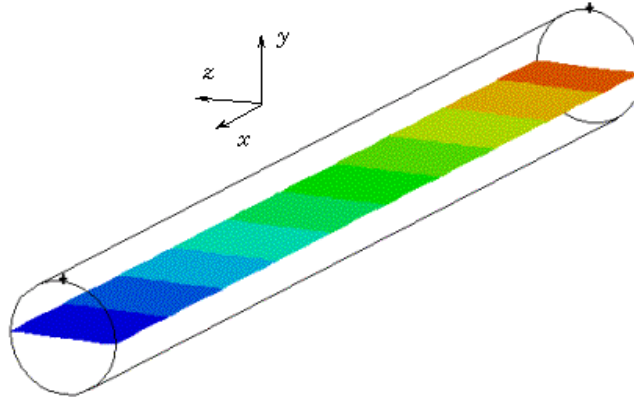
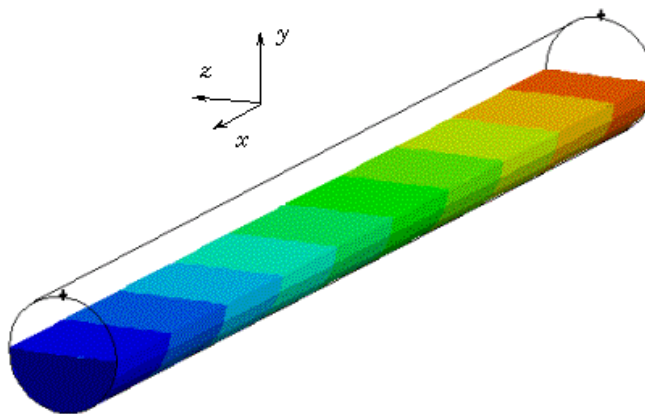
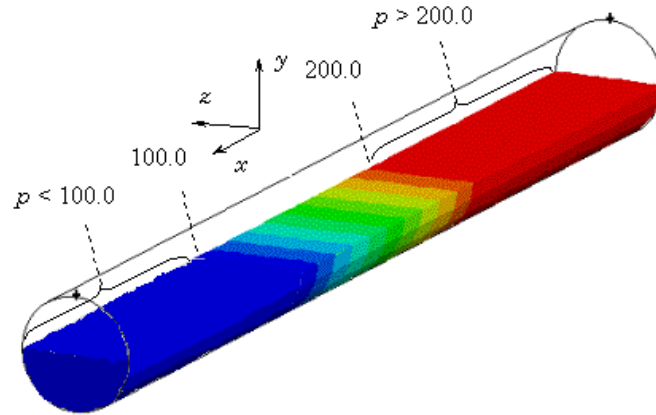
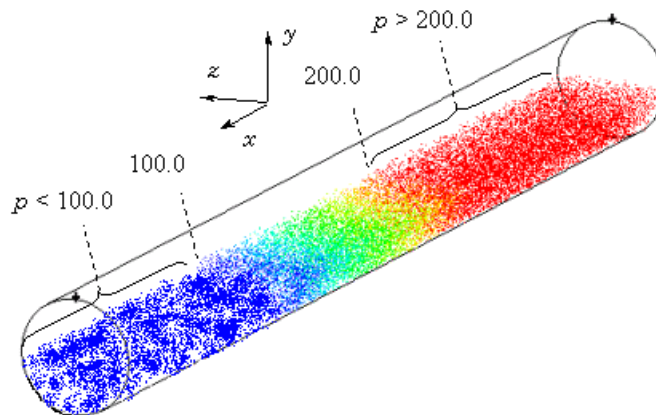

Figure 9.8.4: Band Contour Plot, Halfspace (0)
Figure 9.8.5: Band Contour Plot, Halfspace (-) and (0)
Figure 9.8.13: Band Contour Plot Between Max Value=200 and Min Value=100
Figure 9.8.14: Cloud Contours of Pressure, Minimum=100, Maximum=200
Figure 9.8.4 shows a **Bands** contours of pressure defined on a plane. Each band in this contour represents an isobaric value at one end of the band. By default, the region is divided into 10 intervals.
Figure 9.8.5 shows a plane object with the contour specifications identical to those shown in Figure 9.8.4, but with **Halfspace (-)** and **(0)** options.
If you specify an **Isosurface** contour for the cutting plane only, by selecting only the **Halfspace (0)** option on the **Create Plane Object** panel, the plane-object display is identical to that for a **Bands** contour applied to the cutting plane (Figure 9.8.4).
For example, if you create a **Bands** contour as shown in Figure 9.8.5, and specify **Minimum** and **Maximum** values of 100 and 200 respectively (maintaining the default **Intervals** value), FlowLab displays a pressure contour as shown in Figure 9.8.13.
In this figure, the region in which pressure values are between 100 and 200 is subdivided into 10 intervals. The intervals are assigned colors shown in Figure 9.8.5. The regions in which pressure is less than 100 (**Minimum**) or greater than 200 (**Maximum**) are displayed in blue and red, respectively.
specifications, as well. For example, Figure 9.8.14 shows a Cloud contour plotted using Interval, Minimum, and Maximum specifications identical to those used in Figure 9.8.13.